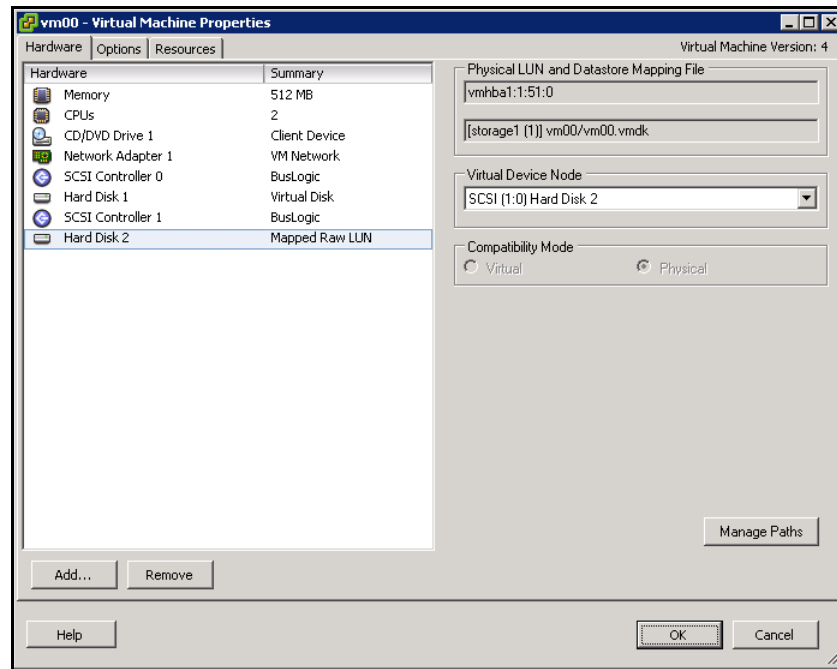

Figure 4-33: Example of Virtual Properties Dialog Box with New SCSI Controller and Hard Disk Added
16. Right-click the same virtual machine and select **Edit Settings**. The Virtual Machine Properties dialog box appears, with the new SCSI controller and hard disk you added (Figure 4-33).